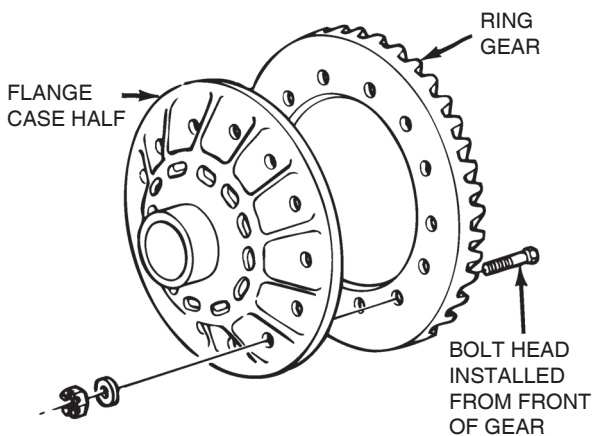

Figure 5.19
- Install the bolts, nuts and washers, if equipped, that hold the ring gear to the flange case half. Install the bolts from the front side of the gear. The bolt threads must be installed from the inside face of the ring gear and the nuts tightened from the back of the ring gear. Figure 5.19.